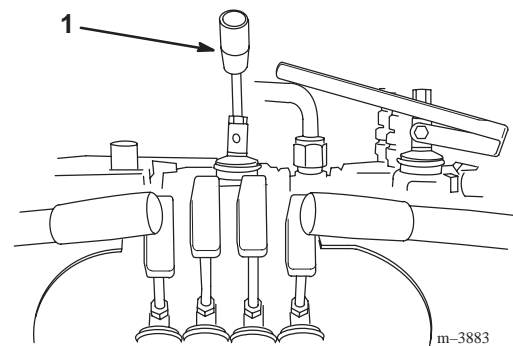

Figure 2
1. Thread the lever into the speed selector valve (Fig. 2).